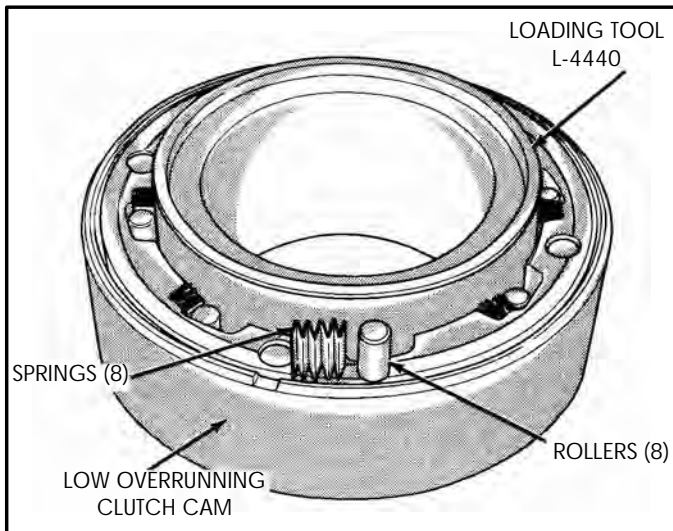

Figure 61
1. Place the low overrun cam on a flat working surface, as shown in Figure 61.
2. Install the loading tool L-4440 into the overrun clutch cam, as shown in Figure 61.
3. Install **new** overrun clutch rollers and springs, eight of each, as shown in Figure 61.